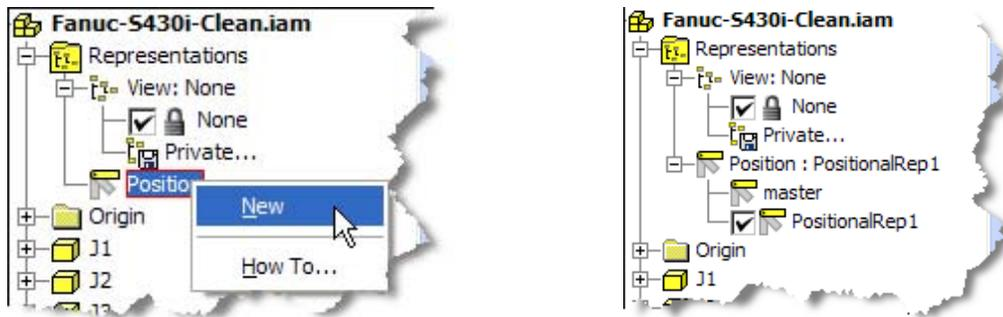

Figure 5 - Creating a new PosRep
4. In the PosRep dialog box there are four tabs. Each changes a different aspect of a PosRep. Depending on what you selected (a constraint, component, pattern and so on) some tabs are unavailable and are grayed out. (Figure 5)